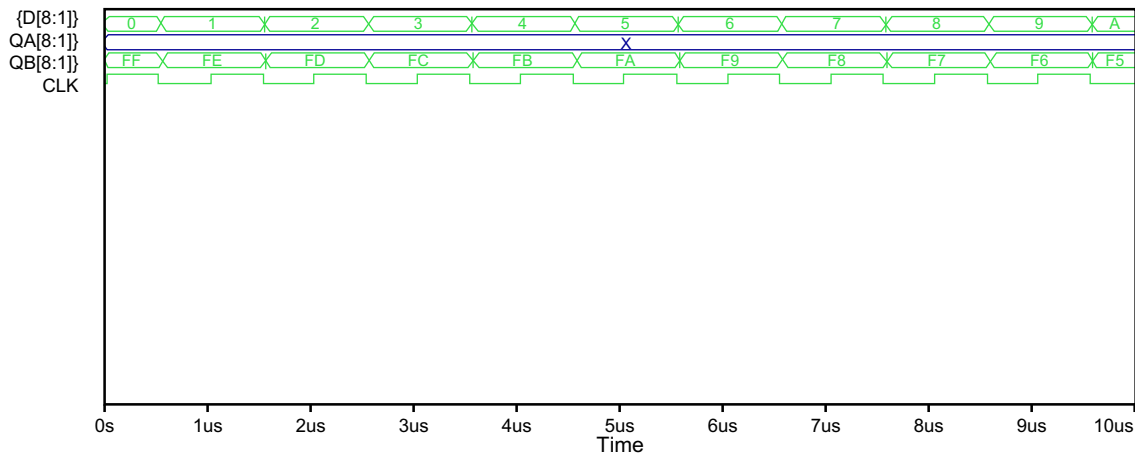

FIGURE 18.17
19. The trace for QA[8:1] is displayed with a Z inside, indicating a high-impedance tristate output (Figure 18.17).